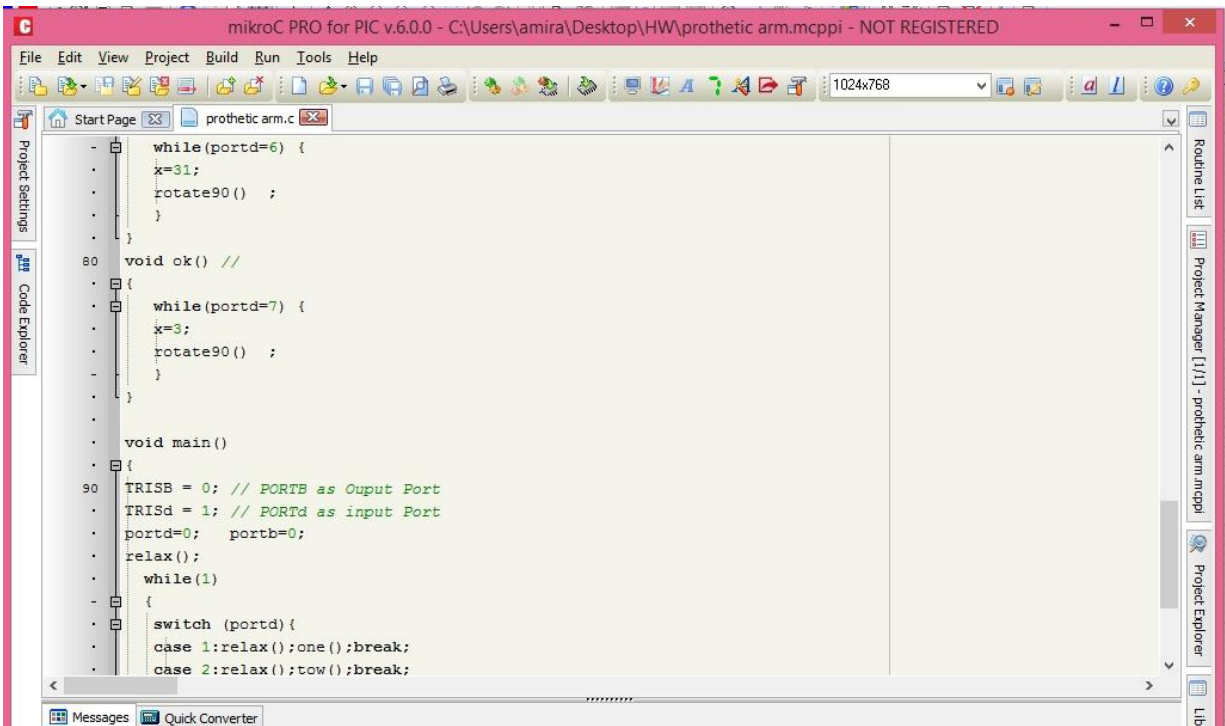

Figure 4.10: Writing MikroC code on MikroC pro
The software development process involves (1) writing and debugging an Mikro C language program as a main control program according to the PIC word instructions, (2) simulating it in Proteus environment (3) embedding it into the PIC microcontroller and (4) testing with the whole system. The software is written and developed in a Window-based environment called Mikro C Pro for PIC (figure 4.10) where it is converted to machine code for embedding process.